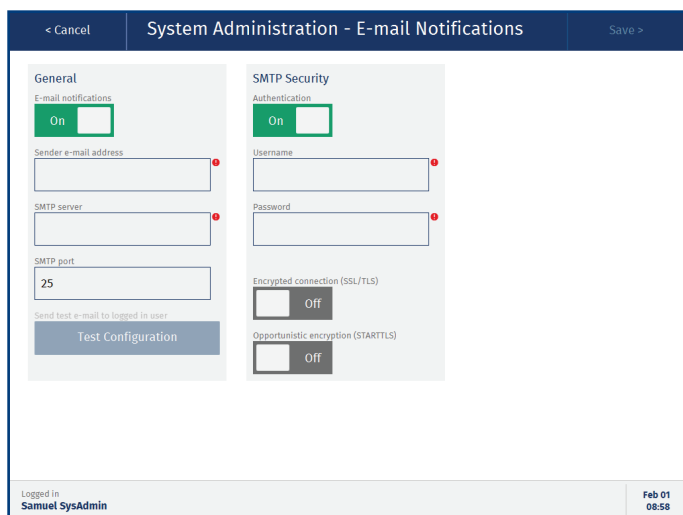

Figure 12. The E-mail Notifications view.
3. In the **General** and **SMTP Security** fields (see Figure 12), enter the required information. Please contact your IT department to get the correct settings for your e-mail server.